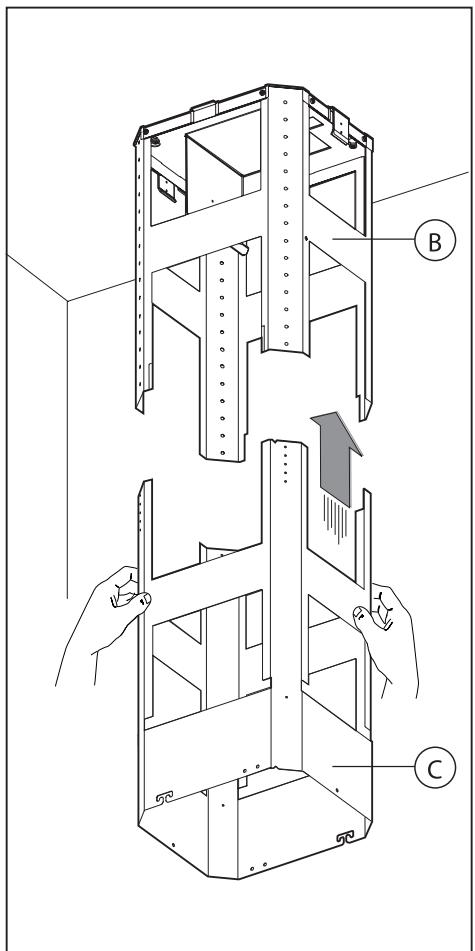
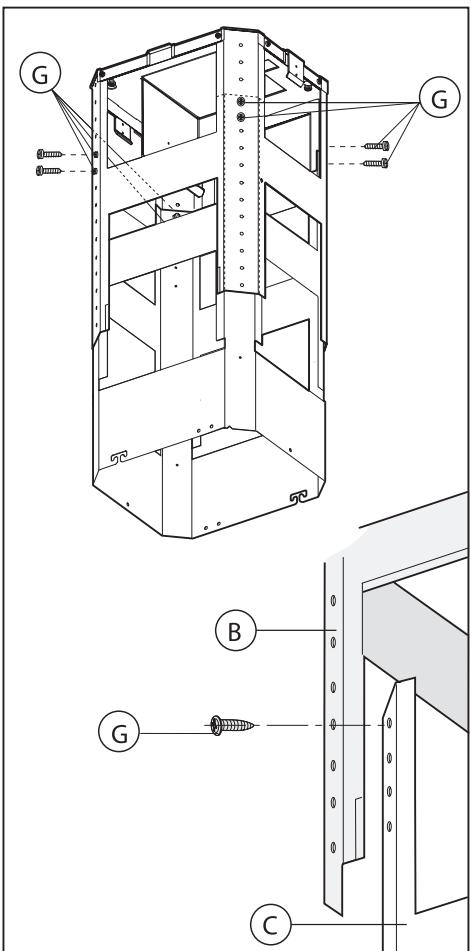
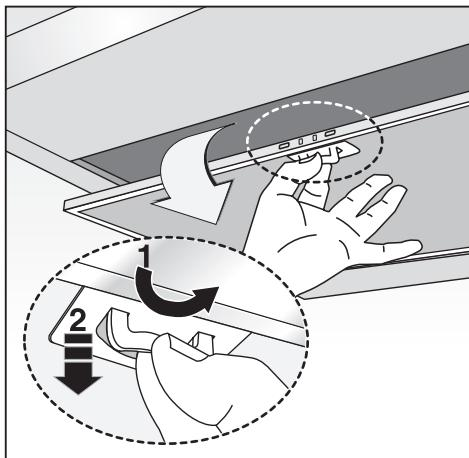

Fig.5
Fig.6
Fig.15
- If the hob is electric, gas, or induction, the minimum distance between the same and the lower part of the hood must be at least **65 cm**. If a connection tube composed of two parts is used, the upper part must be placed outside the lower part. Do not connect the cooker hood exhaust to the same conductor used to circulate hot air or for evacuating fumes from other appliances generated by other than an electrical source. Before proceeding with the assembly operations, remove the anti-grease filter(s) (Fig.15) so that the unit is easier to handle.
- Take the lower part of the telescopic structure **C** and insert it into the upper structure **B** (Fig.5). Adjust the height by referring to the amounts indicated in (Fig.15) and block it using the 8 screws **G** that are supplied (Fig.6).
- If the cooker hood is supplied with a lower chimney piece that must be fixed to the hood body with screws, remove the anti-grease filters from the hood by acting on the relevant handles (Fig.15).